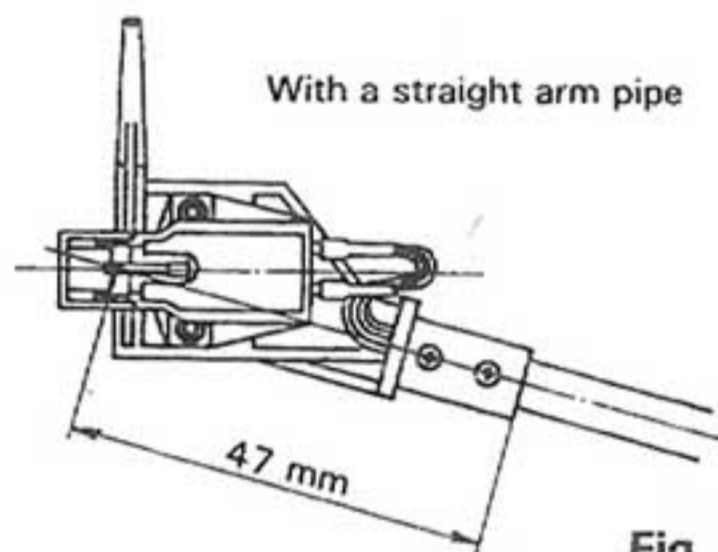

Fig. 12
1. Position the cartridge so that the distance between the headshell end face and the stylus tip equals the values shown in Fig. 12, 13. In addition, confirm that the